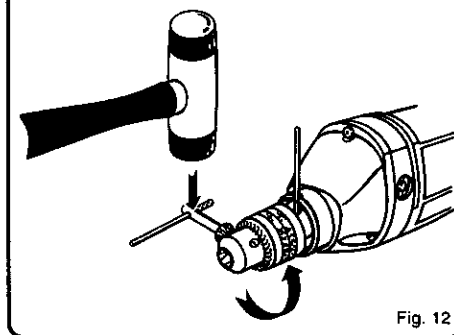

Fig. 12
6. Insert chuck key into chuck and tap sharply with a mallet in a counterclockwise direction. This will loosen the chuck on the spindle. It can now be unscrewed by hand. See Figure 12.